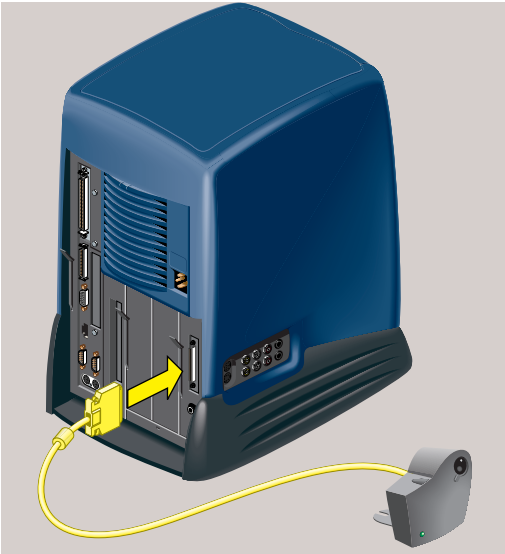

Figure 1-13 Connecting the O2Cam to the Workstation
- Figure 1-13 shows how to connect the O2Cam to the workstation. Connect the camera before turning on workstation so that the system recognizes the device.